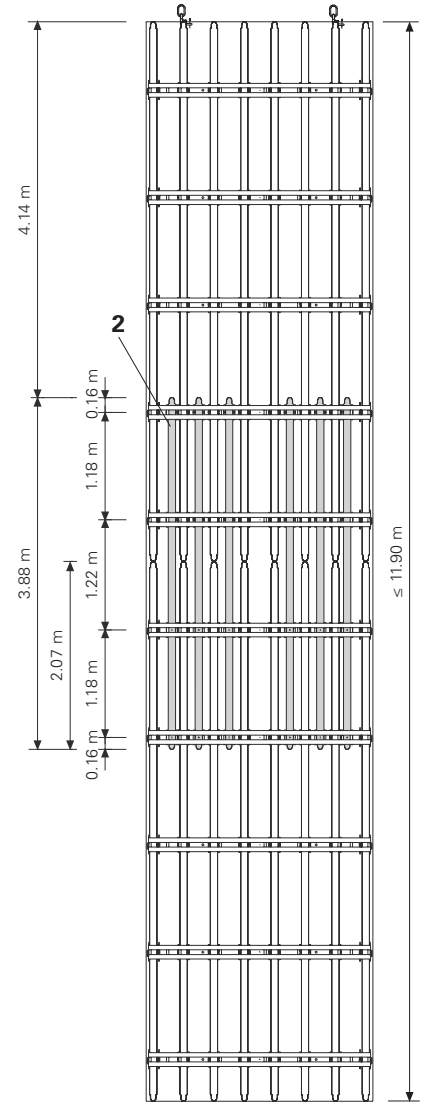

Fig. B10.05
### With additional overlap girders (2) for heights of up to 11.90 m. (Fig. B10.05)